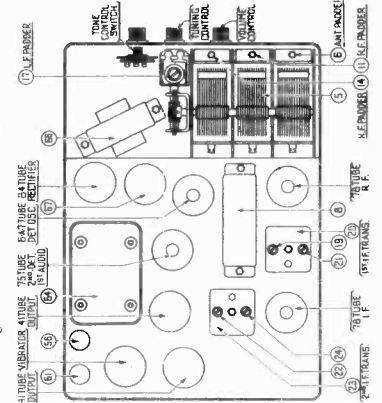

FIGURE 4
Both the primary and secondary padders are placed side by side in the top of the transformer shield can. The adjusting screws are accessible thru the holes in the top of the shield. (See Figure 4).
I. F. — Set the signal generator at exactly 260 K. C. Connect the generator lead to the grid cap of the 6AV tube in series with a .1 mfd. condenser (without removing the grid clip). Adjust the padders ②, ③ and ④ on the first and second I. F. transformers for maximum reading on the output meter. (See Figure 4 for location of padders).